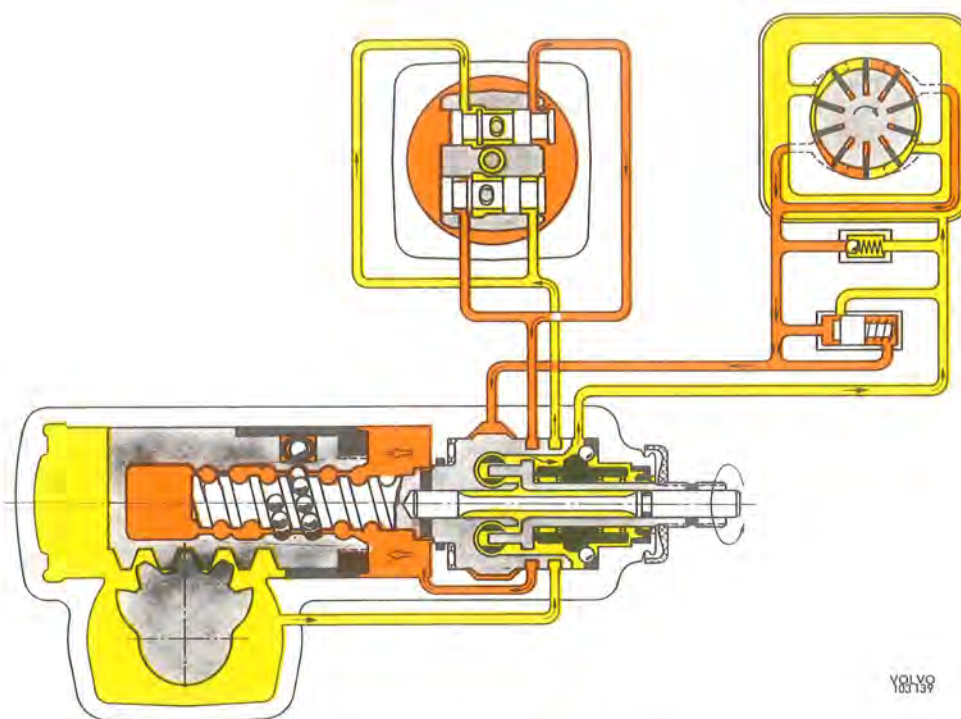

Fig. 6-34. Principle of function, left-hand turn
When the steering wheel is turned to the left (see Fig. 6-34) movement is transmitted via the control spindle (16) and the torsion rod (17) to the steering cam (15), so that the piston (2) is screwed to the left in the figure (downwards in the vehicle). Since the torsion rod is resilient, the steering spindle will be turned in relation to the steering cam and thus influence the valves placed in the cam. The greater the turning movement, the greater will be the valve displacement. One of the control valves (9) is then displaced to the